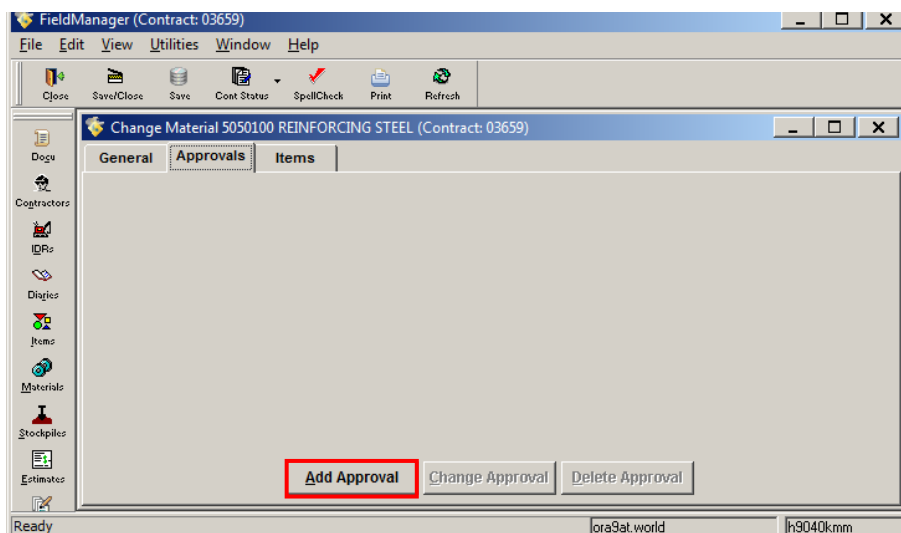
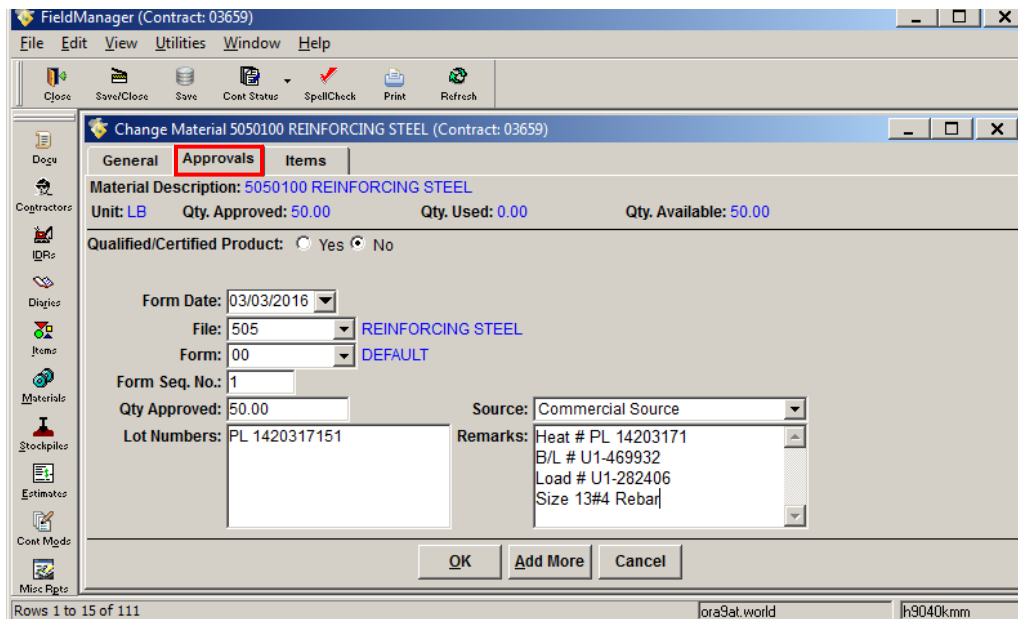

Figure 6-11. Change Material Tab Window – Approvals Tab
Figure 6-12. Change Material Tab Window – Approval Tab – Add Approval
- Click the **Add Approval** button (Figure 6-11). The Approval form opens (Figure 6-12).
5. Enter the following information in the appropriate fields (Figure 6-12):
- Qualified/Certified Product:** The default setting is **No**. **DO NOT CHANGE!** If you attempt to approve a material with the Yes button selected you will get an Error and will not be able to proceed (Figure 6-12).